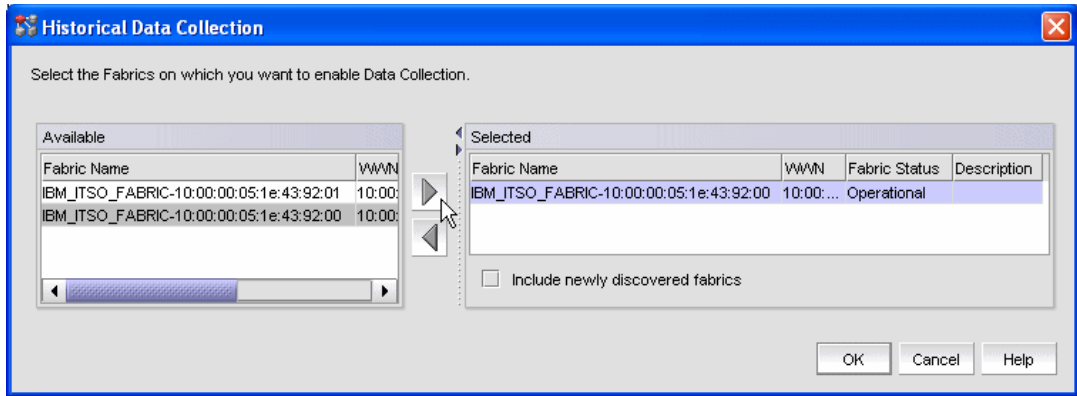

Figure 9-9 Select fabrics
1. Select **Monitor** → **Performance** → **Historical Data Collection** → **Enable Selected** from the Network Advisor menu bar. The Historical Data Collection window opens (Figure 9-9 on page 336).
2. Select one or more fabrics in the Available table on the left, and then click the right arrow in the middle to add them on the Selected table, as shown in Figure 9-9 on page 336. Click **OK** to finish.